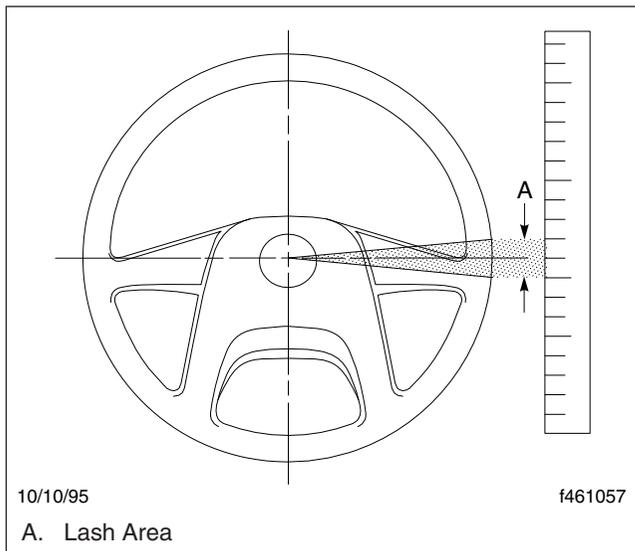

Fig. 12.14, Measuring Lash at the Steering Wheel
- 3.2 Align a reference mark on the steering wheel to a ruler, then slowly turn the steering wheel in the opposite direction until motion is again detected at the wheels. See Fig. 12.14.